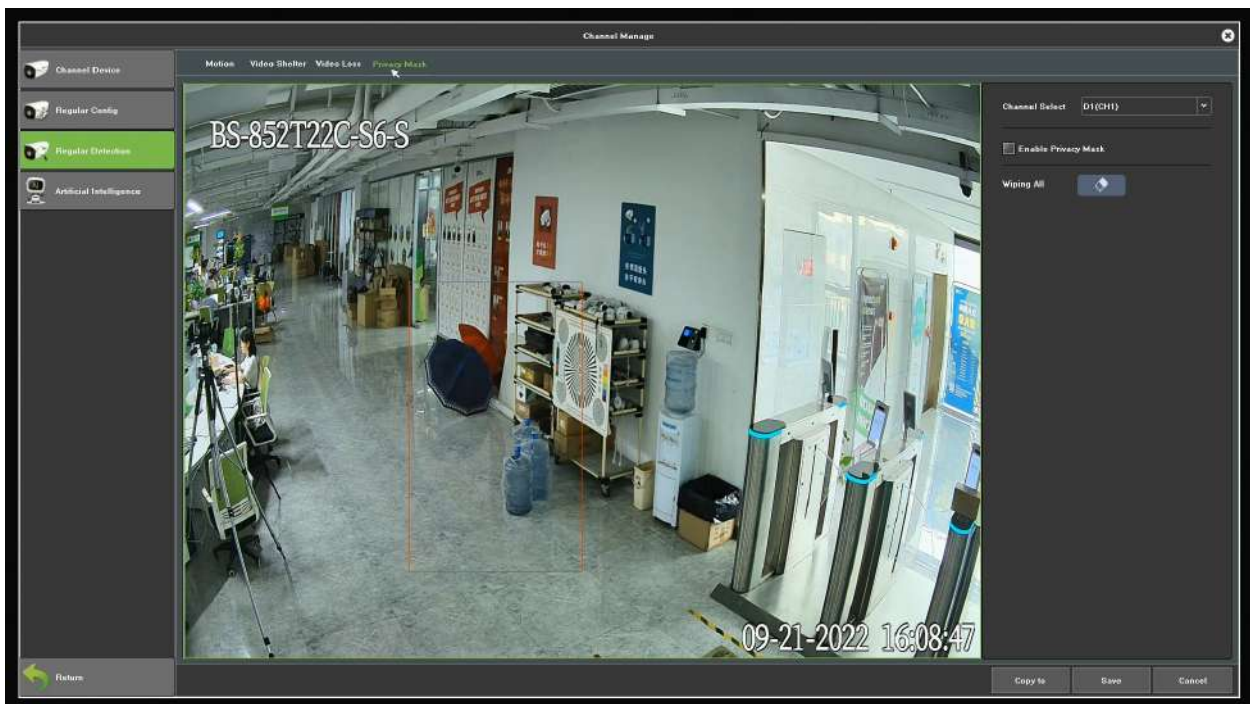

Figure 7.20 Video Mask
1. Enter the **Privacy Mask Settings** interface, as shown in Figure 7.20.